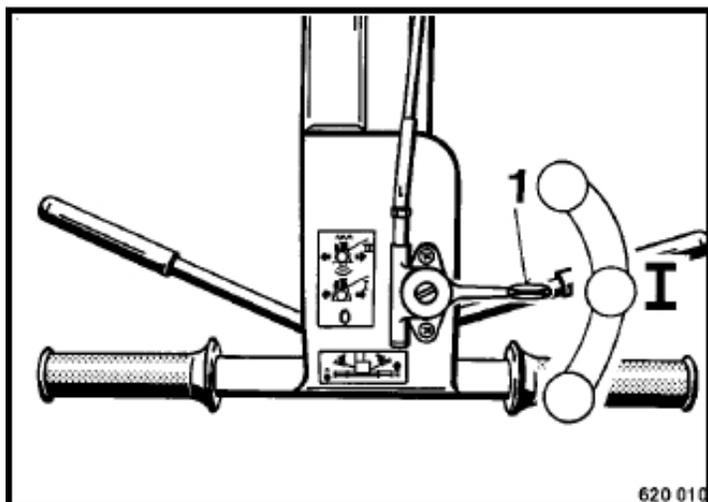

Fig. 5
- 1 Move the throttle lever 1 (Fig. 5) to position "I" (detent).